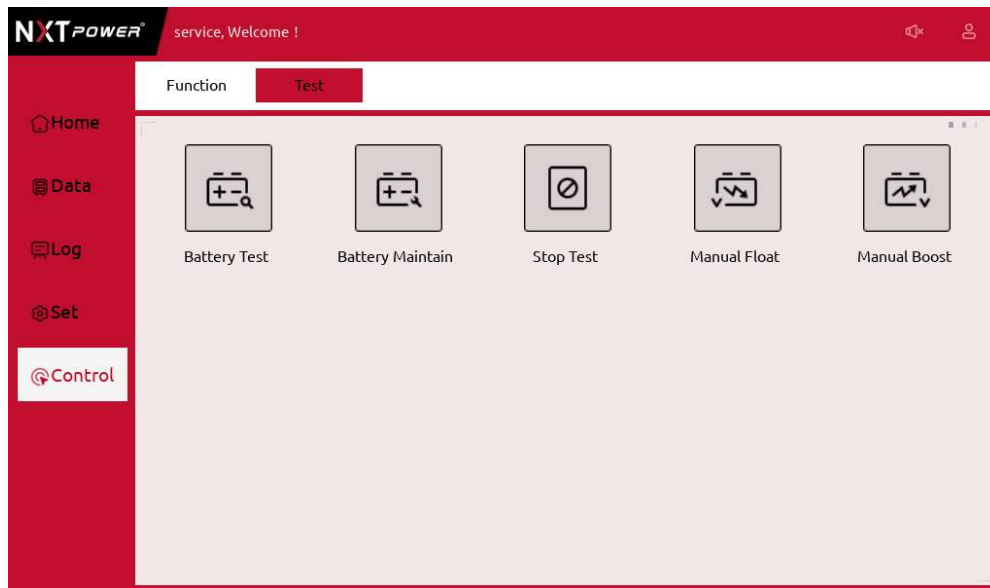

Figure 5-3 Battery maintenance
- (1) Manual discharging test. Enter the "Control" menu, as is shown in Figure 5-3 and touch the icon